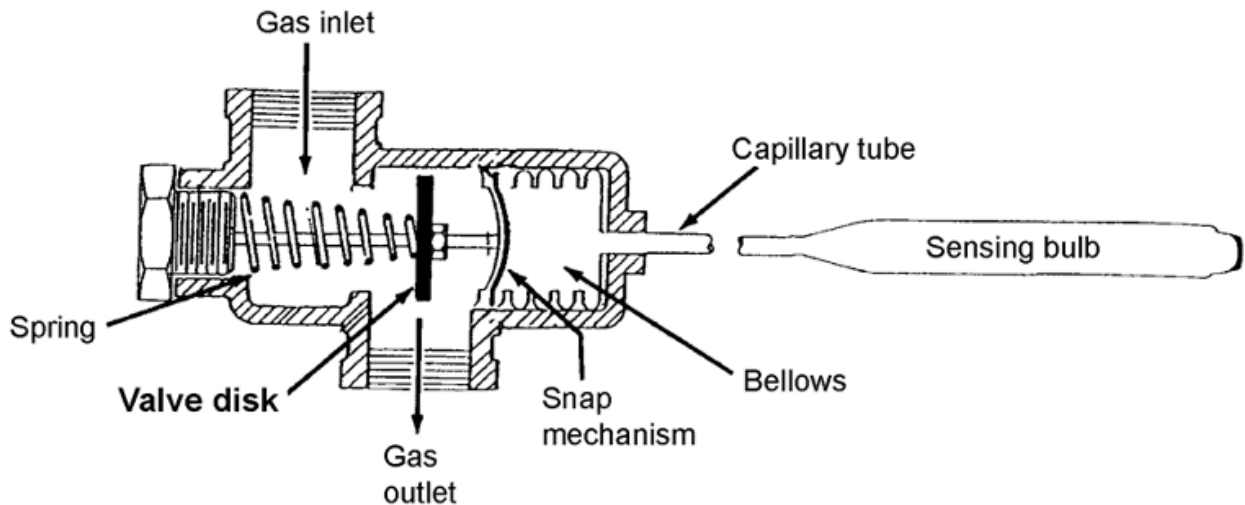

Figure 81. Capillary tube valve components
When a temperature change is sensed by the bulb it causes a change in the volume of the liquid. The liquid volume change is transferred through a capillary tube to a sealed bellows causing it to expand or contract. The sealed bellows is usually acting upon a snap acting disc, similar to the rod and rod sensor, which requires a minimum amount of temperature change before snapping open or shut. Figure 81 shows a valve with the temperature below the setpoint and the valve in the open position.
- Figure 81. “Capillary tube valve components” – The source for this image is unknown. It is being used for non-commercial, educational purposes. To receive credit for this image, please reach out to the publisher.